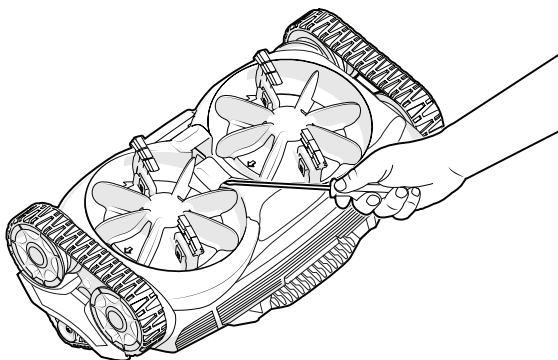

Figure 10. Remove Modular Inlet Adapter
1. Locate slot on underside of cleaner. Insert a flat tool into the inlet adapter (Figure 10).